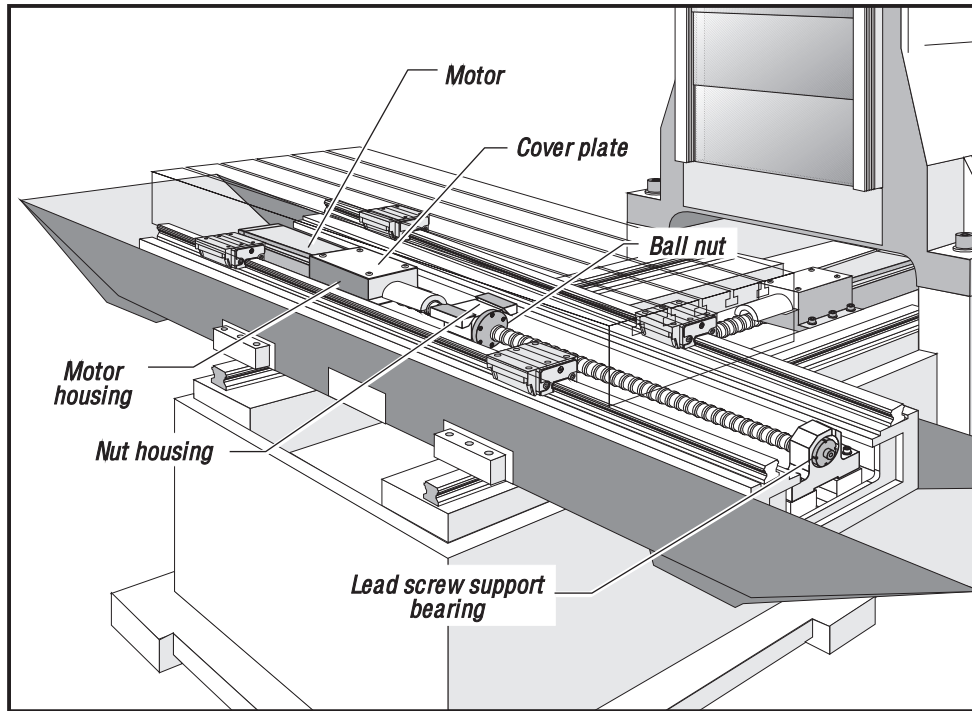

Figure 10-3. Install lead screw from right side.
3. Insert the lead screw through the nut housing and motor housing (See Fig. 10-3), taking care not to make contact with the screw threads, which will cause possible damage.